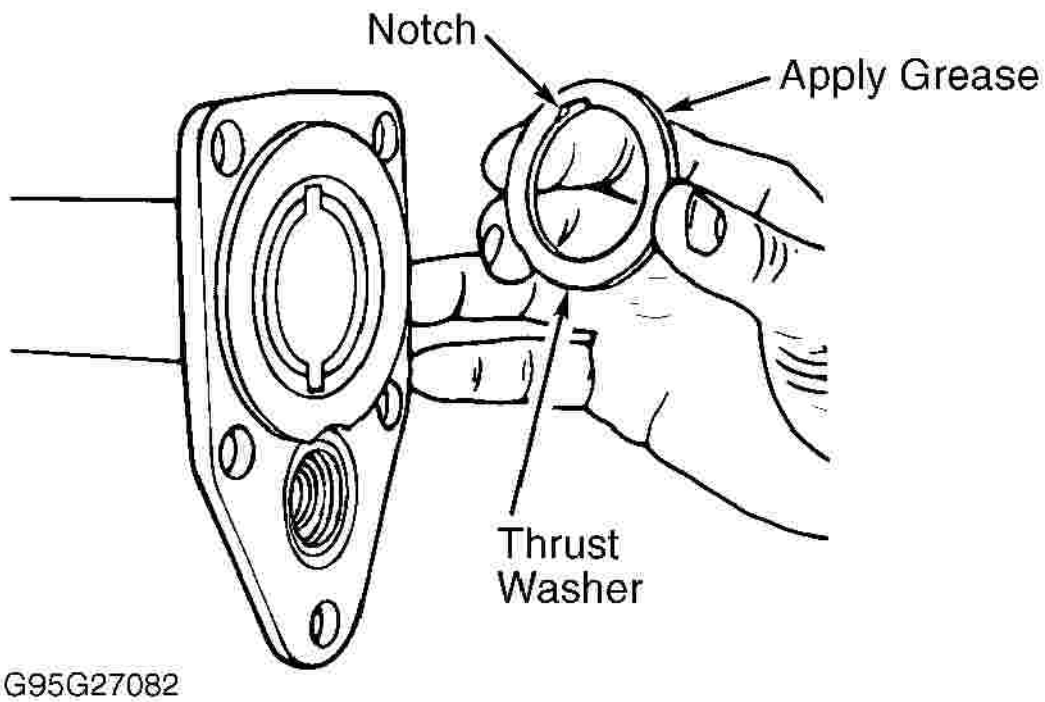

Fig. 6: Installing Axle Tube Thrust Washer
1. Install sleeve, thrust washers, connector and output shaft in carrier. Apply Sealant (GM 1052942 or Loctite 518) on axle tube to differential surface. Ensure thrust washer is installed with notch aligned with tab on washer. See **Fig. 6** . Use wheel bearing grease to hold thrust washer in place.